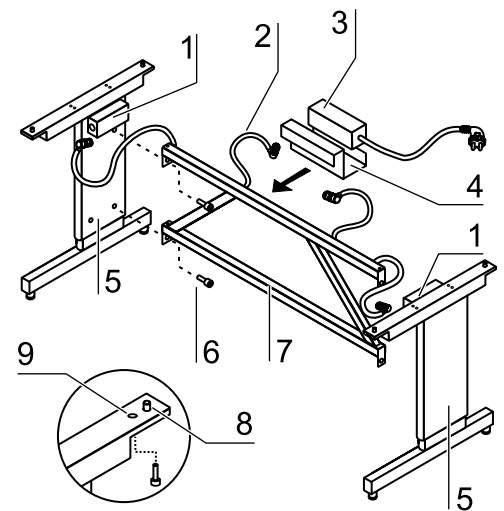

Fig. 3b,
**Fig. 3b:** The height of the electrically height-adjustable rack can be set within a range of 680-880 mm. Both sidemembers [5] have their own electromagnetic drive [1] that is controlled by the synchronizer module [3].
1. **Fig. 3b:** Secure the two sidemembers [5] to the crossmember [7] using the screws [6].